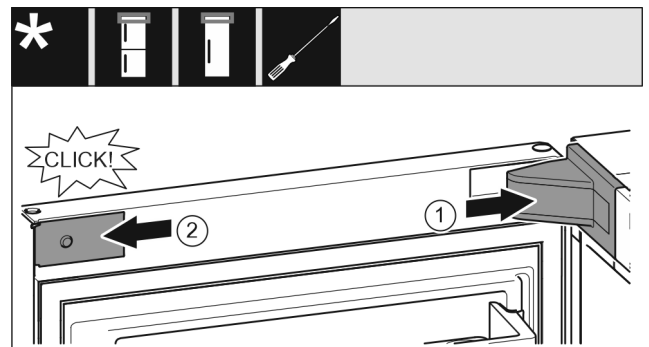

Fig. 22
- ▶ Position the bearing bracket cover and engage it. If necessary push it apart carefully. Fig. 22 (1)
- ▶ Position the panel on the side and latch into place. Fig. 22 (2)